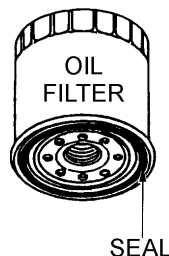

Figure 34. Oil Filter Cartridge
1. Clean oil filter mounting base, and coat oil filter seal (Figure 34) with clean engine oil.